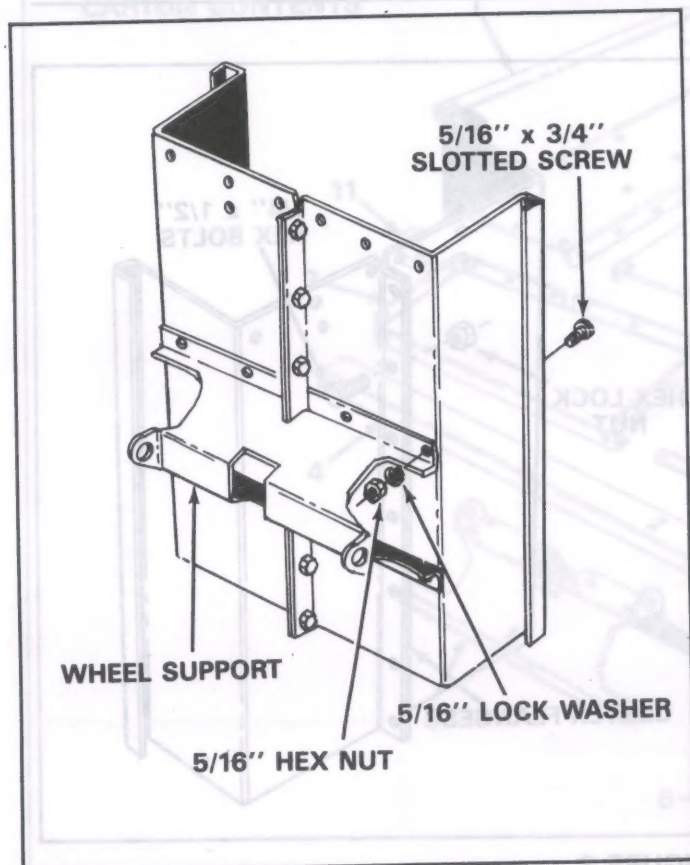

**FIGURE 4**
6. Position the tailgate reinforcement bracket over end of cart. See figure 4.
7. Start six 5/16" x 3/4" slotted screws through bottom of cart and reinforcement bracket (heads of screws to the inside of cart). Secure finger tight with 5/16" hex nuts and 5/16" lock washers. See figure 4.
8. Position the tailgate guides so that the holes line up with reinforcement bracket and cart body. Refer to tailgate guide detail in figure 4.
9. Secure tailgate guides with six 1/4" x 1/2" hex bolts and 1/4" hex lock nuts. See figure 4. Tighten only the bolts assembled in steps 7 and 8 at this time. Do not tighten others.